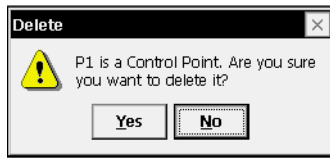

Figure 2-103. Delete Message
- *Overwrite*: the imported object will overwrite the existing one. If the object represents a control point, a confirmation displays that the point is deleting (Figure 2-103 on page 2-93).